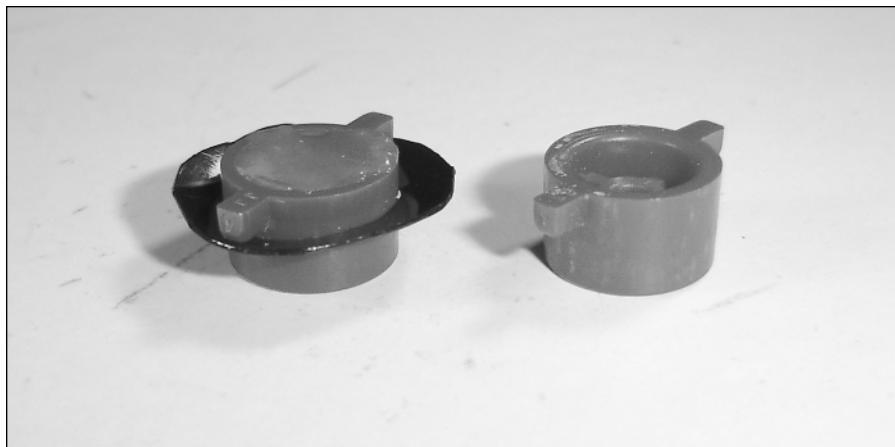

FIGURE 7-26: Modified buttons, after and before. For the ring I used the plastic from the bottom of a store-bought cake tray. (The cake was good, too.)
2. Cut a ring of very thin plastic and place it around the button, as seen in Figure 7-26.